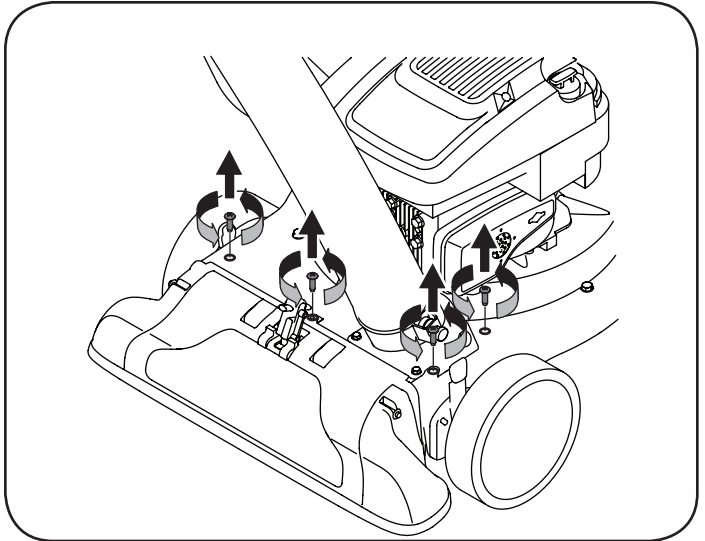

Figure 24
6. Remove the four screws on the upper housing that secure the nozzle cover. See Figure 24.